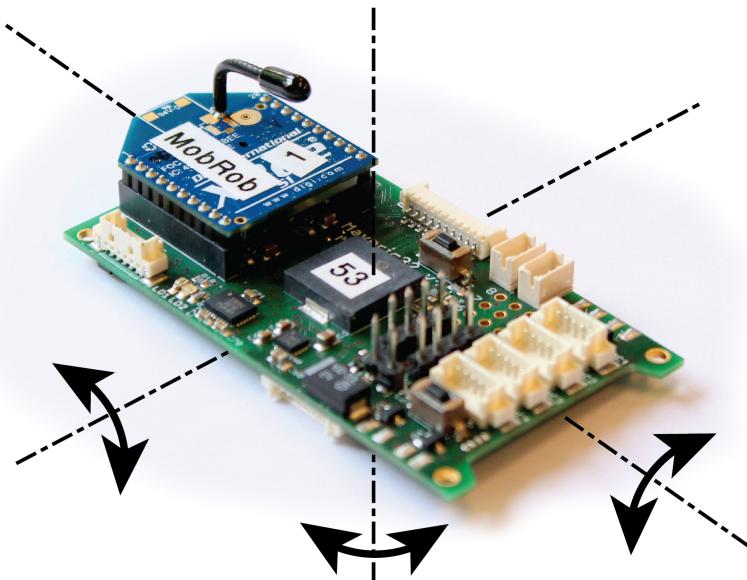

Figure 3.2: Orientation of the gyroscopes on the MAV'RIC autopilot board.
- f) Complete Fig. 3.2 with the good orientations of the gyroscopes. The orientations of the magnetometers are already programmed in the code. Explain how you would proceed to find the good orientations of the magnetometers: